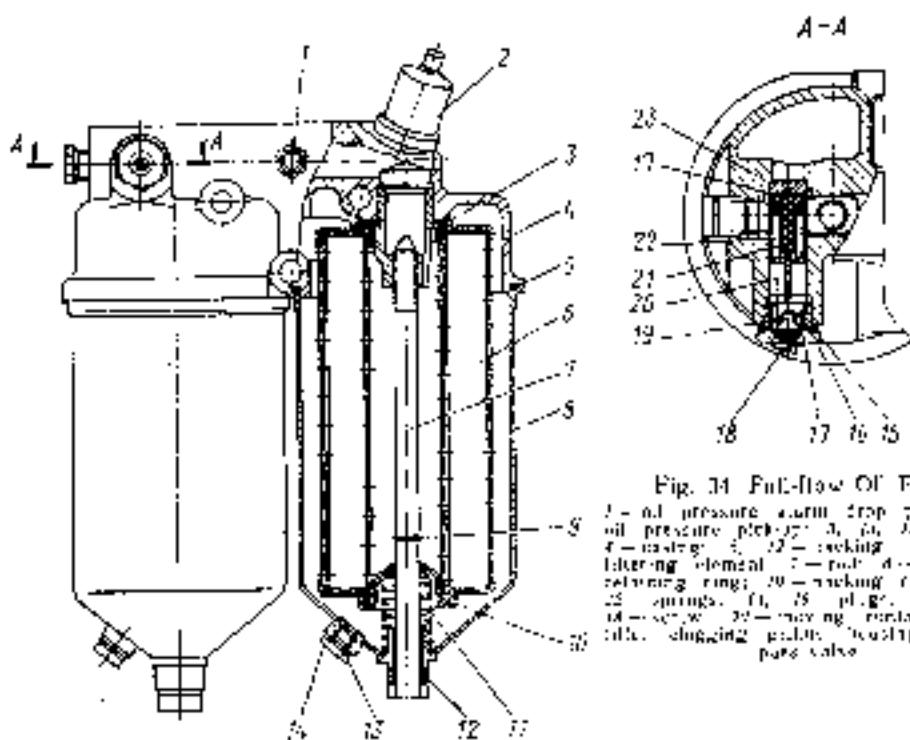

Fig. 34 Full-Flow Oil Filter
Full-flow oil filter (Fig. 34) is secured to the cylinder block right-hand wall; it comprises two replaceable filtering elements. By-pass valve 23 is built in the filter casing, having a contact-type pickup. The valve opens when the pressure before and after the filtering elements rises to 250–300 kPa (2.5–3.0 kgf/cm²). If the filter resistance increases (due to clogging of filtering elements, solidification of oil at low temperatures), oil is supplied to the main line of the lubrication system through the by-pass valve, escaping filtering element 6. When by-pass valve 23 operates, the contacts close in the warning indicator and lamp (indicator) 5 (see Fig. 16) glows on the instrument board inside the cab. This lamp may glow only when the engine is started and the crankshaft rotates at minimum rotational speed.
The filter casing houses oil pressure pickup 2 (see Fig. 34) and oil pressure alarm drop pickup 1 in the main line. If the oil pressure drops lower than 70 kPa (0.7 kgf/cm²), lamp (indicator) 2 (see Fig. 14) glows on the instrument board.
- screw out drain plugs 14 (see Fig. 34) on heads 8 and drain the oil;